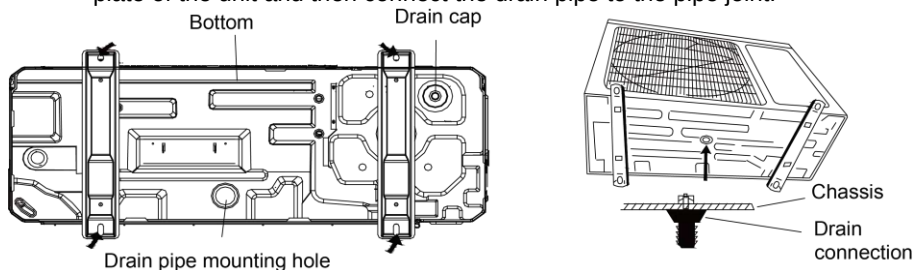

Fig. 4.7
4.2.2 Condensate Drainage of the Outdoor Unit(Only for the heat pump unit) (Fig. 4.7)